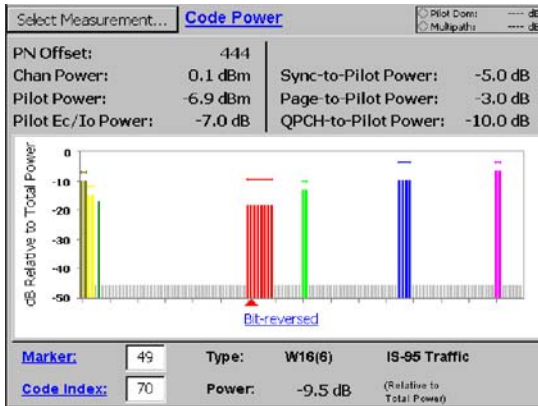

Figure 3-52: cdma2000 Code Power display
5. Tap **Code Power**. See Figure 3-52.